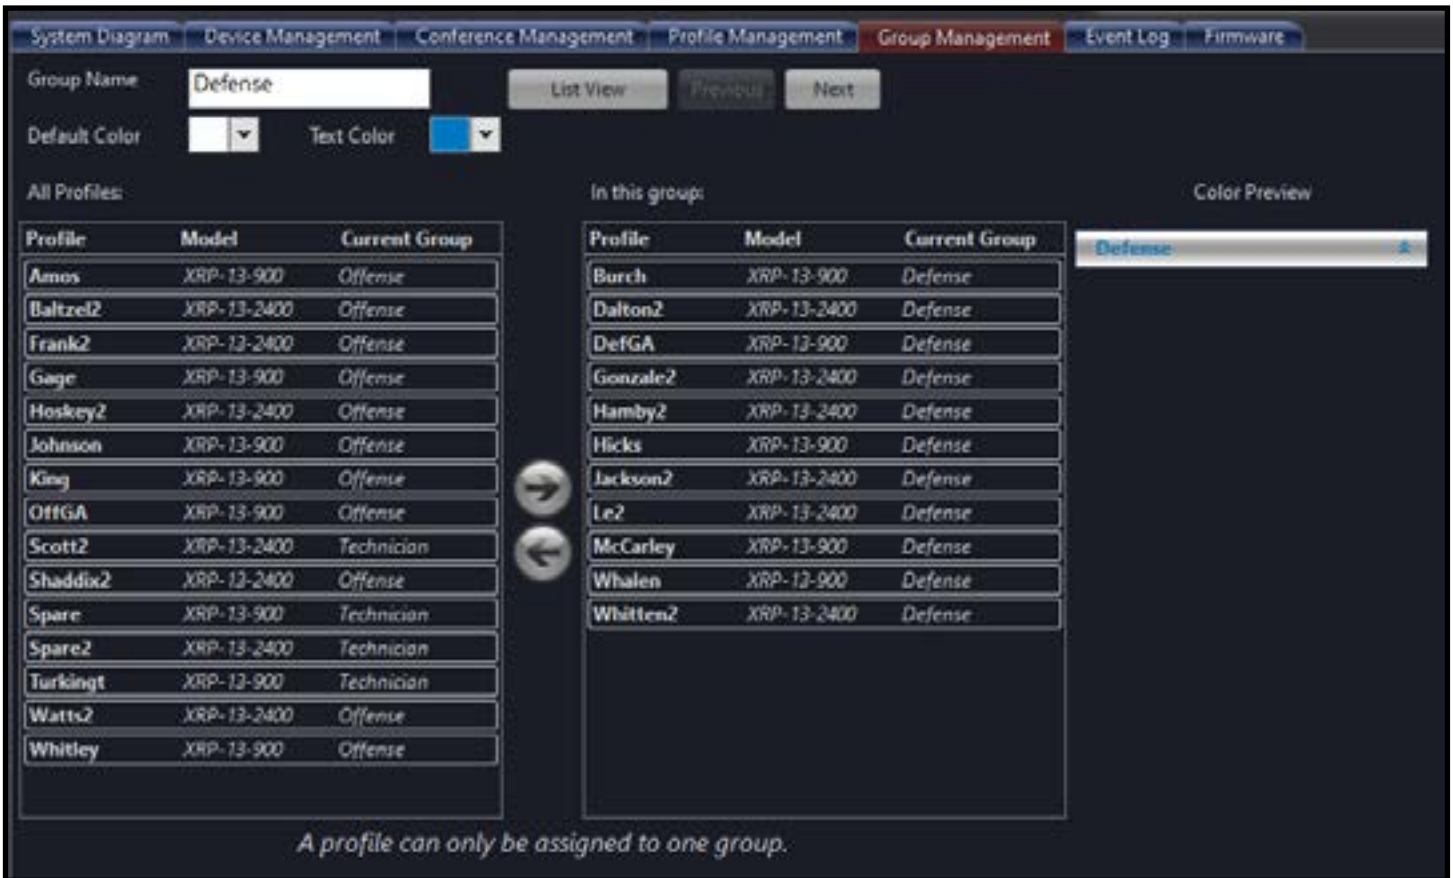

Figure 90: X-Ware Group Detail Screen
- To associate profiles with any group, select them from the All Profiles list on the left-hand column, then use the arrow button to place the selected profiles into the right-hand “In this group” column. You may also open the profile’s detail view and edit the Profile Group field (in the Global Profile Settings section). See Figure 90.